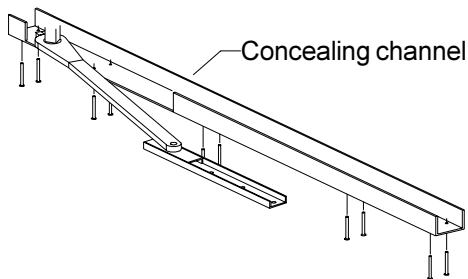

Figure 15-1
- 15.1. For concealed header applications using offset arm with butt hung and offset pivoted doors **only**, prepare header dress plates for concealing channel (Figure 15-1; see separate Installation Instructions for 87400-XXX Arm).
- 15.3. For concealed header applications using offset arm with butt hung and offset pivoted doors **only**, install concealing channel (Figure 15-1).